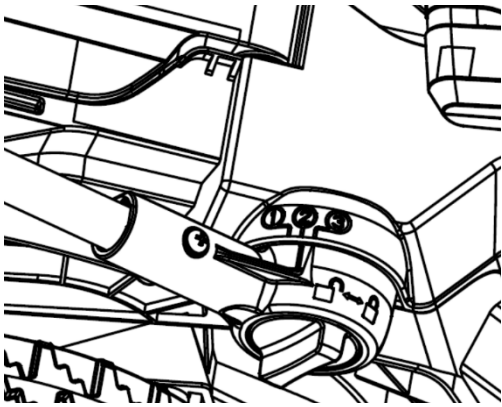

Fig. 2D
1. Rotate the locking knob from lock "🔒" position to unlock "🔓" position to RELEASE the lower handle. (Fig. 2D)